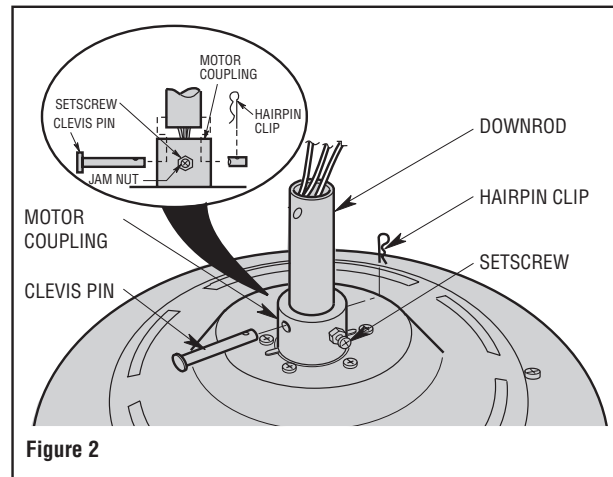

Figure 2
2. Separate, untwist and unkink the three 80" motor leads. Route the motor lead wires through the downrod. Align the clevis pin holes in the downrod with the holes in the motor coupler. Install the clevis pin and secure with the hairpin clip (Figure 2). The clevis pin must go through the holes in the motor coupler and the holes in the downrod. Be sure to push the straight leg of the hairpin clip through the hole near the end of the clevis pin until the curved portion of the hairpin clip snaps around the clevis pin. The hairpin clip must be properly installed to prevent the clevis pin from working loose. Pull on the downrod to make sure the clevis pin is properly installed.
**It is critical that the clevis pin in the motor coupler is properly installed and the setscrew securely tightened. Failure to verify that the pin and setscrew are properly installed (as shown in Figure 2) could result in the fan falling.**